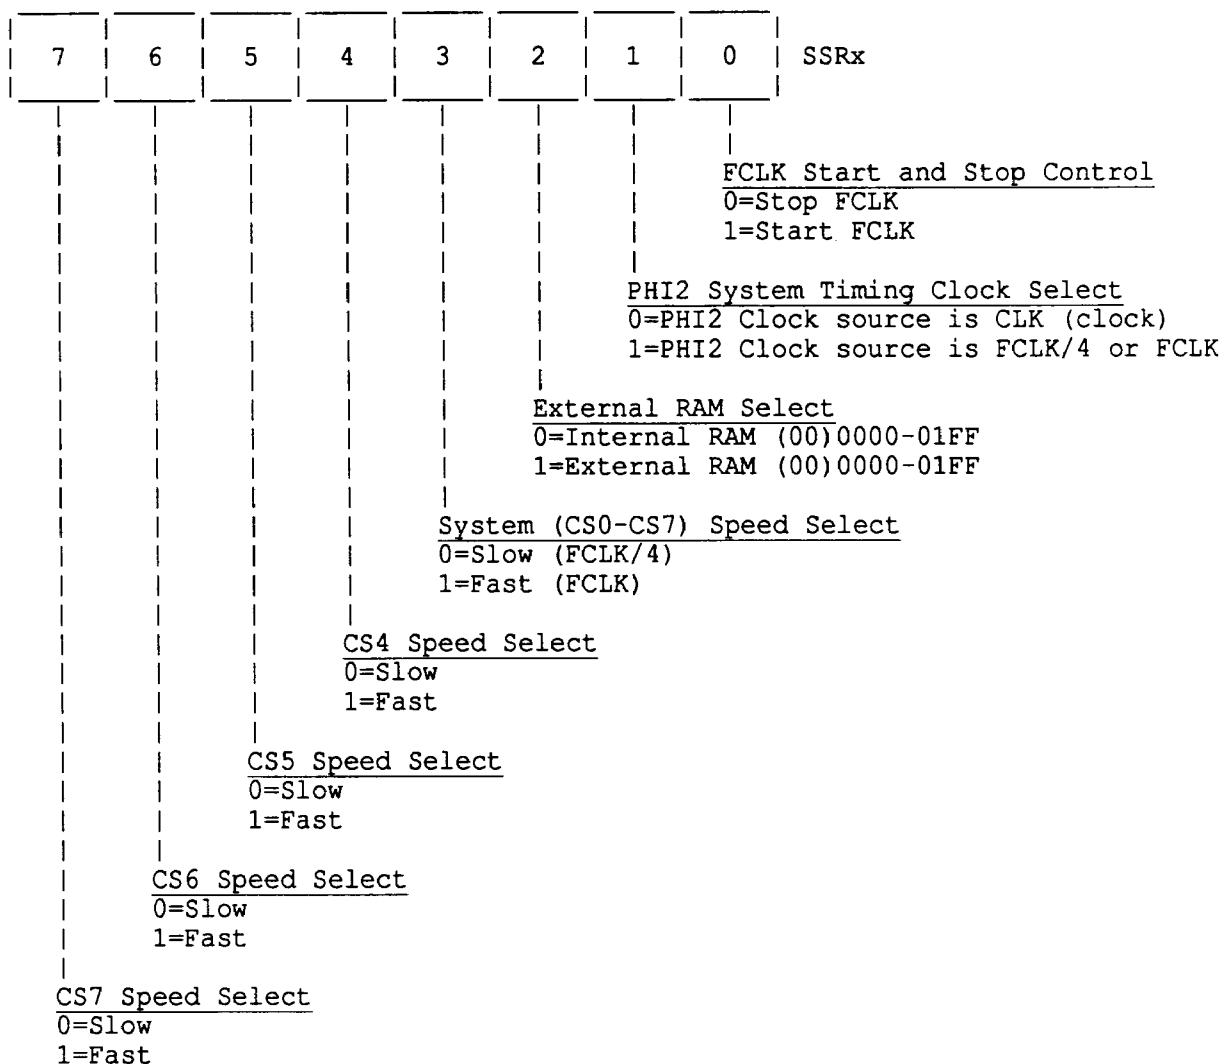
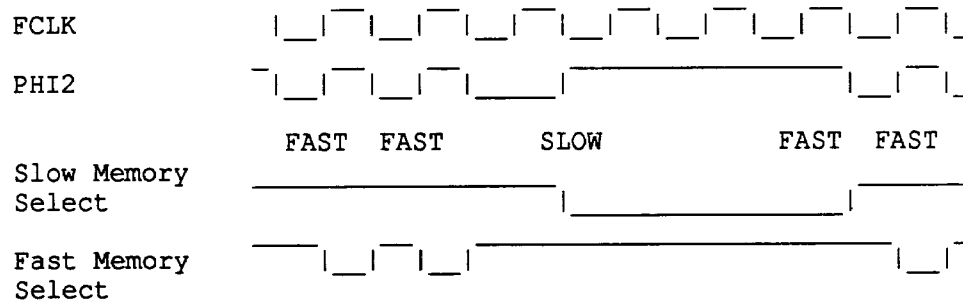

Figure 1-12-1 SYSTEM SPEED CONTROL REGISTER (SSCR)
Figure 1-12-2 SYSTEM SPEED CHANGE TIMING DIAGRAM
Each Tone Generator (TGx), as shown in figure 1-12-1 is comprised of a sixteen (16) bit timer and a sixteen (16) step divider circuit that selects the proper Digital to Analog (DA) output level. The TGx output sine wave is shown in Figure 1-12-2 below.